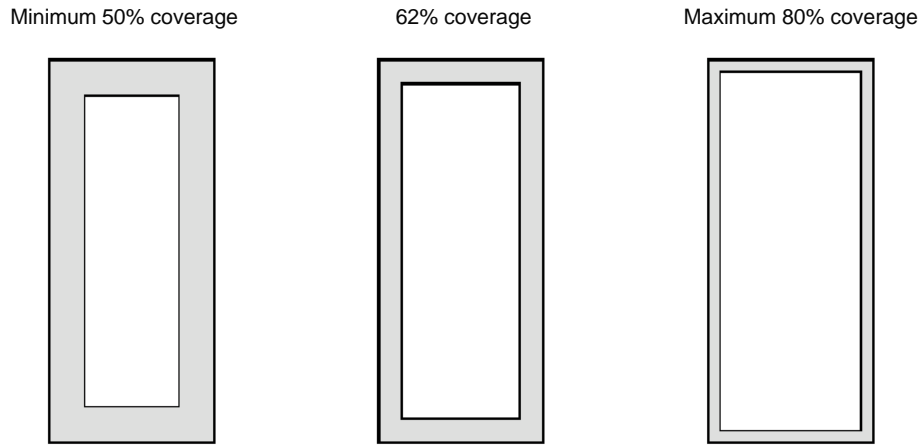

Figure 25. Solder Paste Application on Pins
4. The aperture opening for the signal pads should be between 50–80% of the QFN pad area as shown in Figure 25.